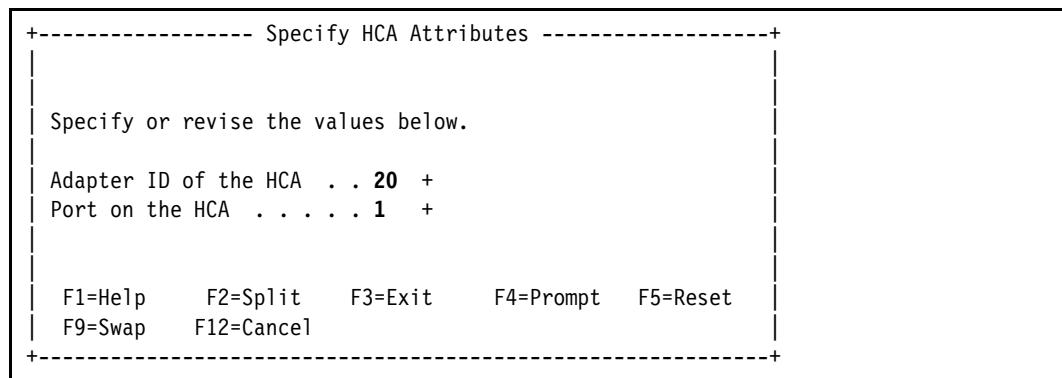

Figure 14-3 Processors: Specify HCA Attributes, CS5
6. HCD prompts you to specify the adapter and port of the HCA attributes. Make the following updates (Figure 14-3) and press **Enter**: